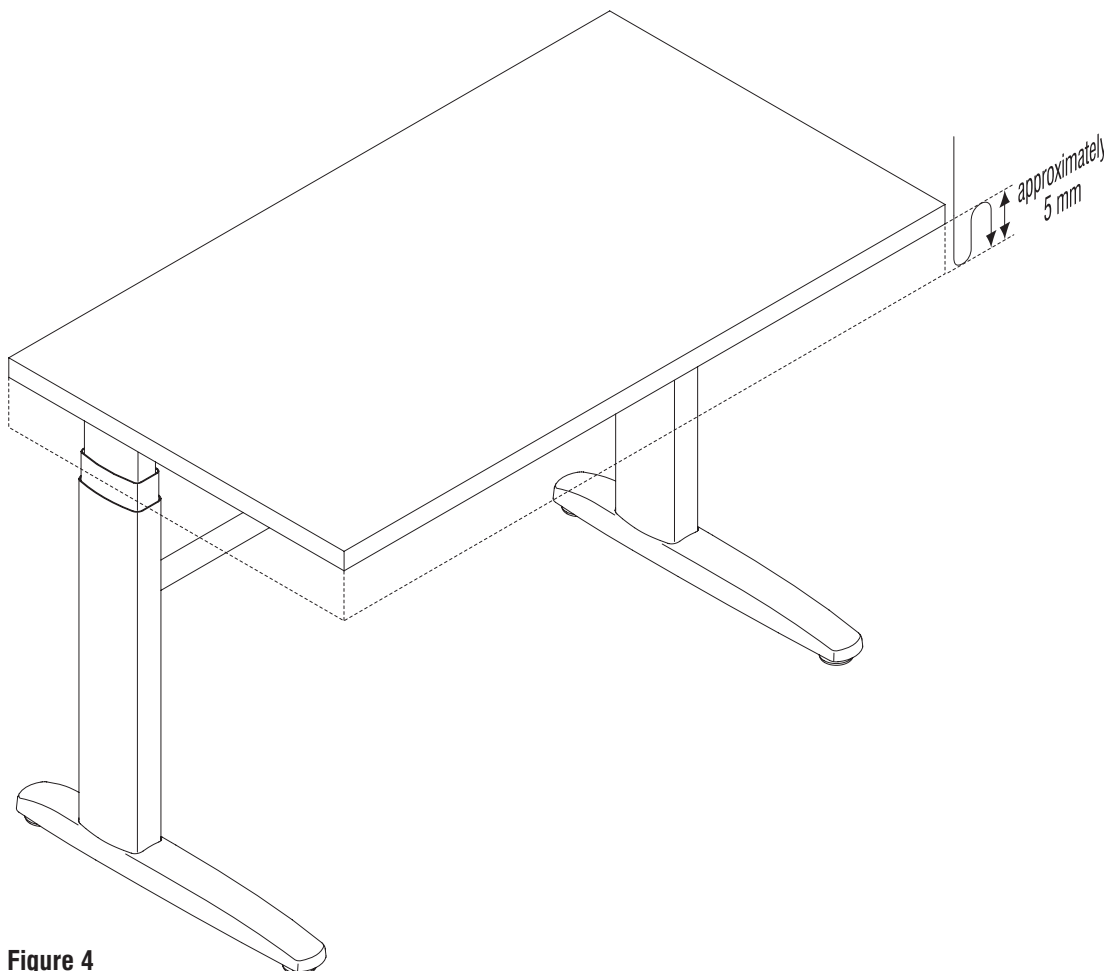

Figure 4
1. Press and hold the Down button on the control switch (Figure 3). The unit will lower to the end stop and stop moving. Release the Down button. Press the Down button again, and the unit will raise approximately 5 mm, then slowly lower to the end stop again. Release the button only when the unit has stopped moving completely (Figure 4).
Press and hold the Down button on the control switch (Figure 3, page 3). The unit will lower to the end stop and stop moving. Release the Down button. Press the Down button again, the unit will then raise approximately 5 mm, and then slowly lower to the end stop again. Release the button only when the unit has stopped moving completely (Figure 4).